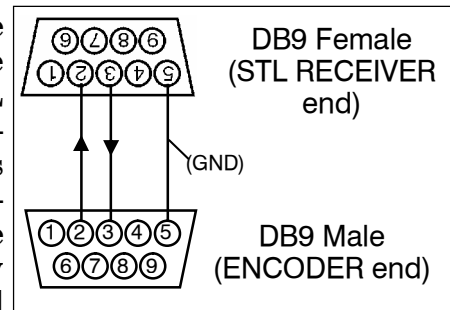

**Figure 5A**
**Interconnect Cables** When the 720 is connected to a computer for static programming, the front-panel USB port is by far the most convenient means, and a suitable cable has been included with the encoder. Serial-port connection with station automation for dynamic messaging requires a 'straight-through,' pin-for-pin DB9 extension cable, and a short one comes with the 720. Serial cable pinout is diagrammed in Figure 5A.